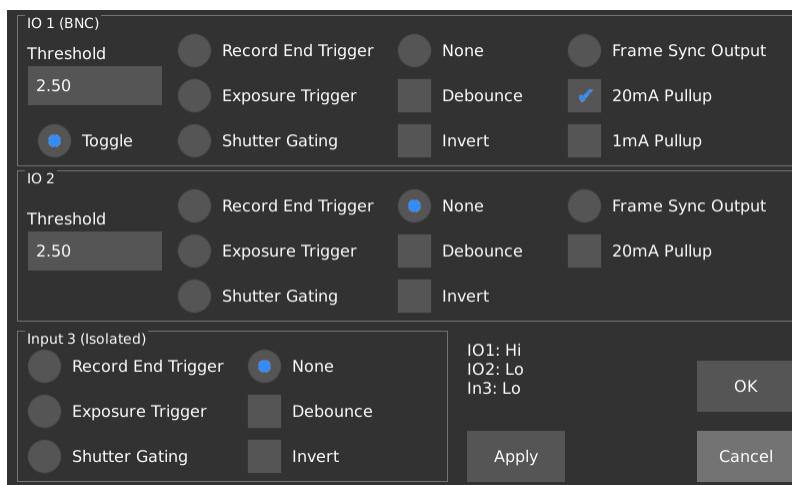

Figure 1.3 Settings for cameras 1 and 2 when using the toggle option
- In the TRIGGER/IO 1 window, set up both camera's trigger settings as depicted in **Figure 1.3**